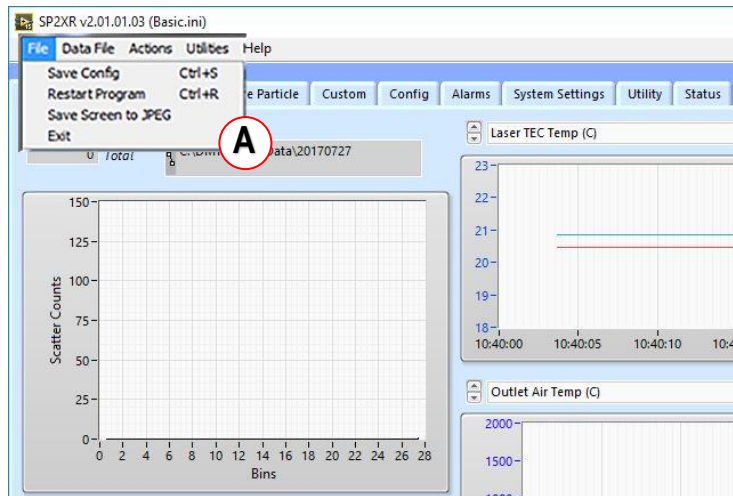
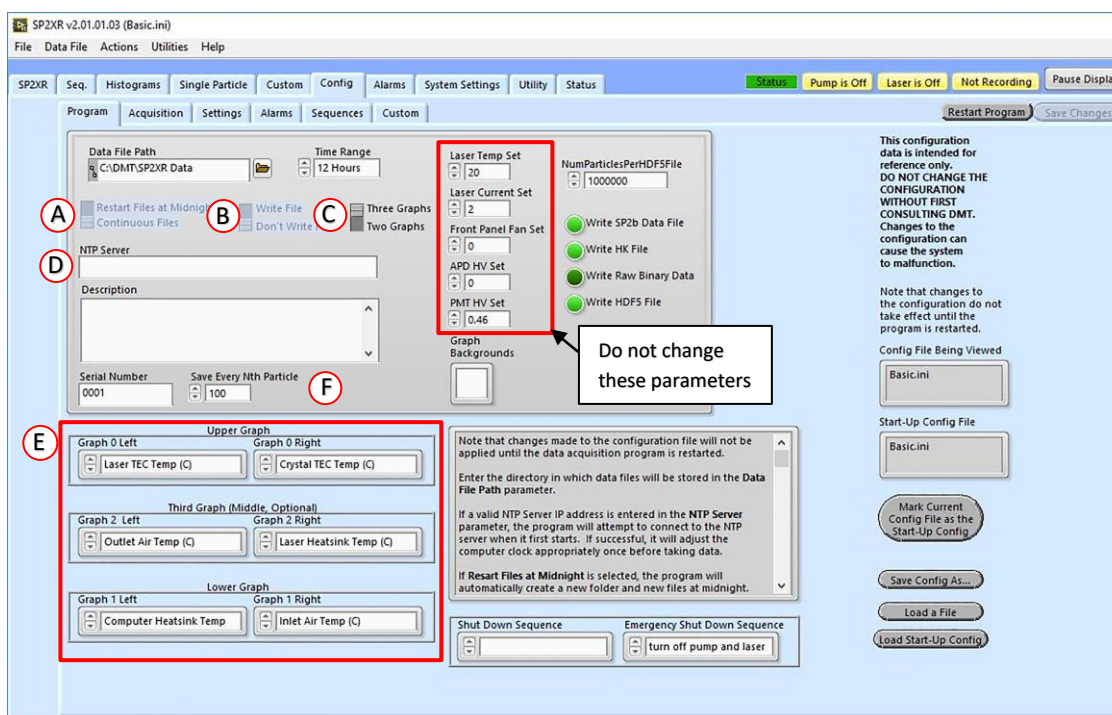

Figure 5: File tab
Figure 12: Config / Programs tab
- To start, make sure that the correct **Config** file is chosen **(A)** (Figure 5). Go to the **Config** tab and **Program** Sub-tab (Figure 12) and check the Config file being viewed window. After setting up the correct **Config** file, navigate to the main SP2-XR screen initiate the start-up procedure for the Pump and laser.
(Figure 5) shows the **File** tab (**A**). It is used to save a Configuration file, save the current screen as a .jpg, or Exit the program. This is the preferred way to close the program as the configurations and configuration files will be saved properly.
The **Config** tab (Figure 12) and the four sub tabs and all parameters in the config tab are part of the .ini file and are only editable if the second level software password is entered.